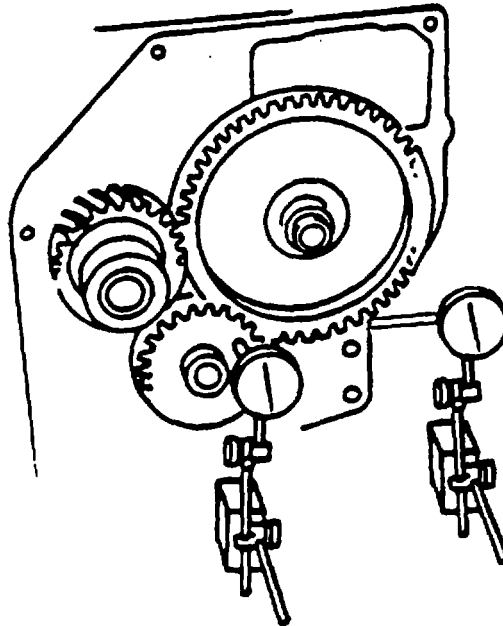

FIGURE 3-35. Measuring Gear Backlash and End Play
- e. Measure timing gear backlash (FIGURE 3-35) as follows:
- (1) Set a dial indicator on timing gear to be measured.
- (2) Hold gear to be checked and adjoining gear stationary.
- (3) Move gear tooth side to side in backlash. Record indicated backlash Total Indicator Reading (TIR). Standard TIR is 0.004 - 0.007 in. (0.10 to 0.17 mm) with a limit of 0.012 in. (0.30 mm)
- (4) If TIR exceeds limit, replace gear.